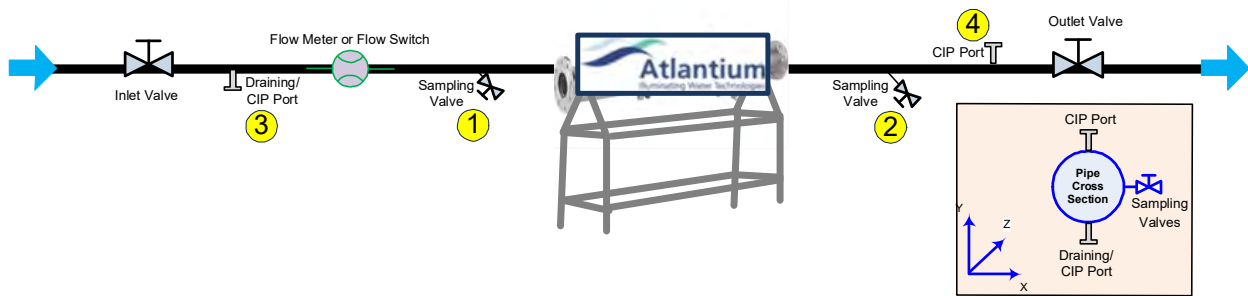

Figure 5-6: CIP Ports and Sampling Valves Orientation
Step 1. On the Inlet side, install the **Long welding ferrule or threaded male adapter (1)**.
- Position aseptic sampling valves (1 & 2 in Figure 5-6, on page 48) horizontally (90°) on the pipe center, within 50cm of the Unit.
- Weld the 1 inch **ferrule (1)** clamp fitting at a horizontal orientation (3 or 9 o'clock).